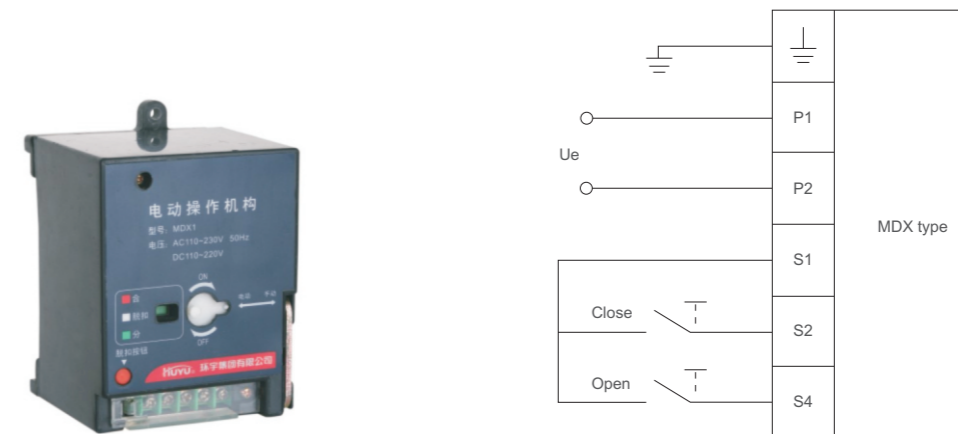

Figure 5. Wiring diagram of the MDX type motor operator
8、 8. See Figure 5 for the wiring diagram of the motor operator